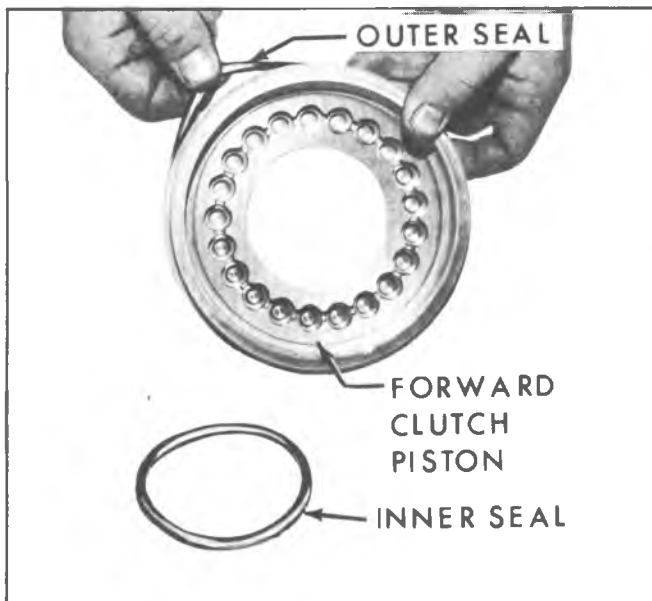

Fig. 75N--Removing Forward Clutch Piston Inner and Outer Seals
5. Remove piston return seat and twenty-one (21) clutch return springs.
7. Remove the forward clutch inner and outer piston seals (fig. 75N).